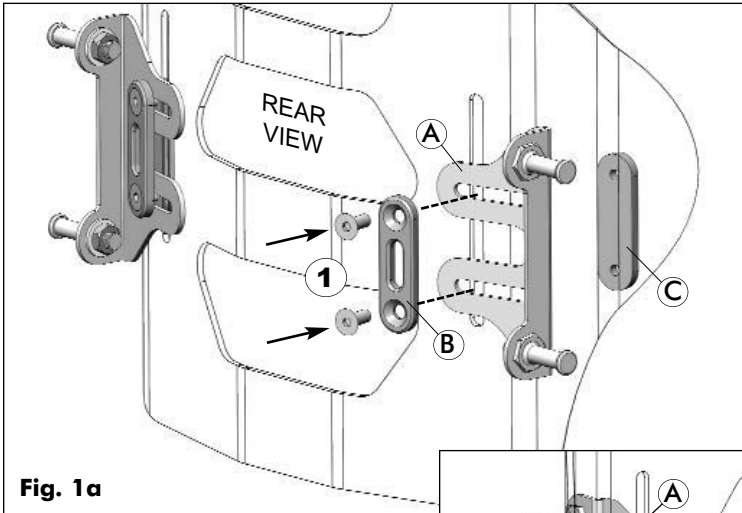

Fig. 1a
- 1 Working on one side of the back shell, install the quick-release mounting bracket (A) onto the Matrix MX2 back shell as follows:
- Align the washer plate (B) with the slots in the mounting bracket (A) and insert screws through both components (1); (Refer to Fig. 1a (p.18))